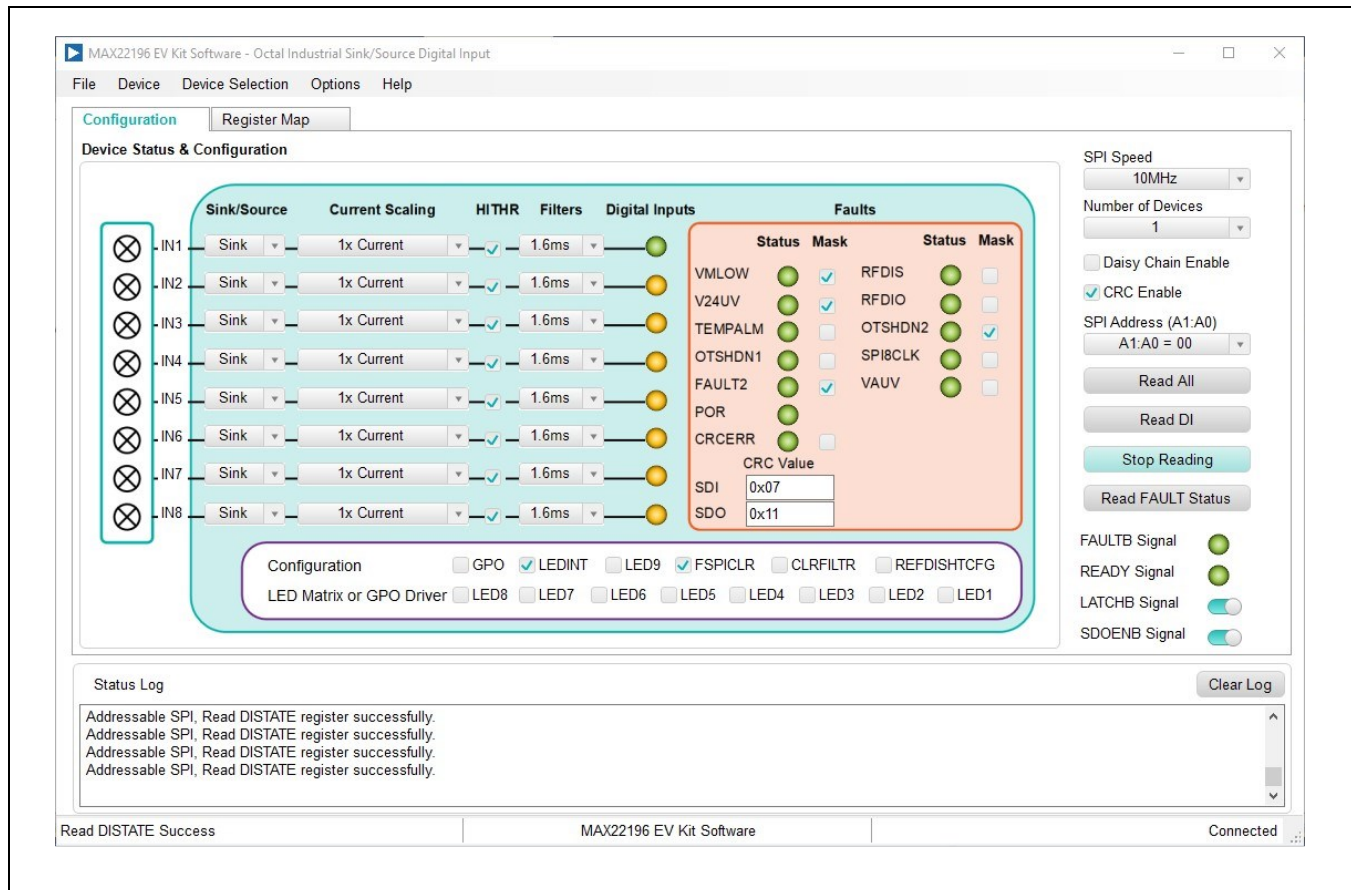

Figure 2. MAX22196 EV Kit Software—Type 1/3 Sink Mode Configuration
13. Configure all channels to Type 1/3 Sink mode and display the per-channel digital input status on the LED1 to LED8. Configure all channels' **Sink/Source** dropdown box to **Sink** mode, **Current Scaling** box to **1x Current**, and **HITHR** checkbox to be enabled as shown in Figure 2. The **LEDINT** checkbox is enabled to allow LED matrix to be controlled autonomously by the device. Once the configuration is done, click **Read DI Continuously**. The EV kit software now reads the DISTATE register continuously.